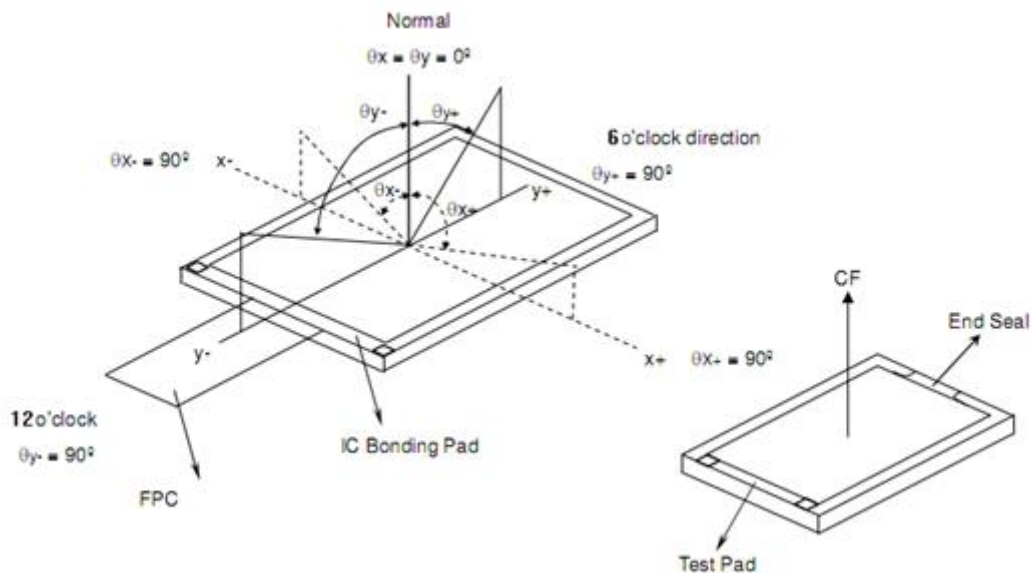

Figure 3. Definition of viewing angle
6. The electro-optical response time measurements shall be made as FIGURE 3 shown in Appendix by switching the “data” input signal ON and OFF. The times needed for the luminance to change from 10% to 90% is Tr, and 90% to 10% is Td